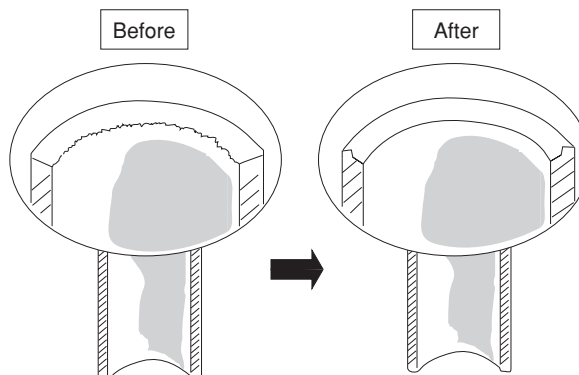

Fig. 15
- (1) Cut the copper tube to the required length with a tube cutter. It is recommended to cut approx. 12" to 20" (30 to 50 cm) longer than the tubing length you estimate.
- (2) Remove burrs at the end of the copper tube with a tube reamer or file. This process is important and should be done carefully to make a good flare. (Fig. 15)